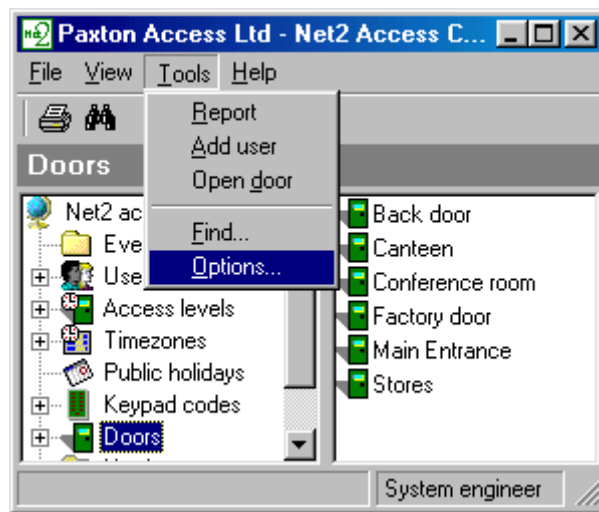

Figure 4.26
1. Select **Options** in the **Tools** menu, see figure 4.26.